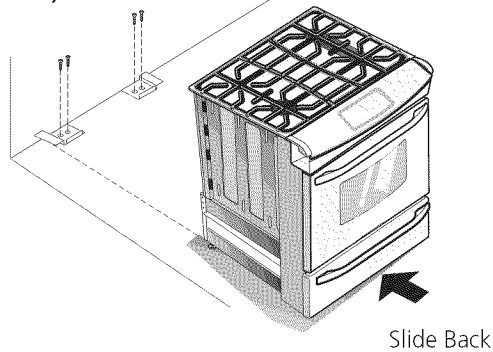

Figure 12
1. Unfold paper template and place it flat on the floor with the back and side edges positioned exactly where the back and sides of range will be located when installed. (Use the diagram below to locate brackets if template is not available. (Figure 12))